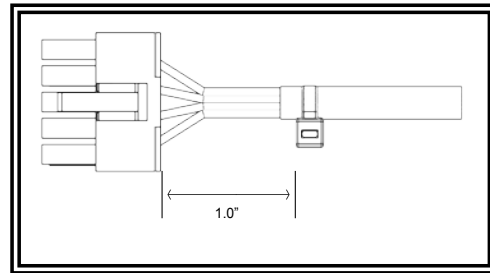

FIGURE 3
6. Place zip-tie 1.0" from base of the connector trim excess zip tie. Shown in Figure 3. Zip-tie must not slide on cord.